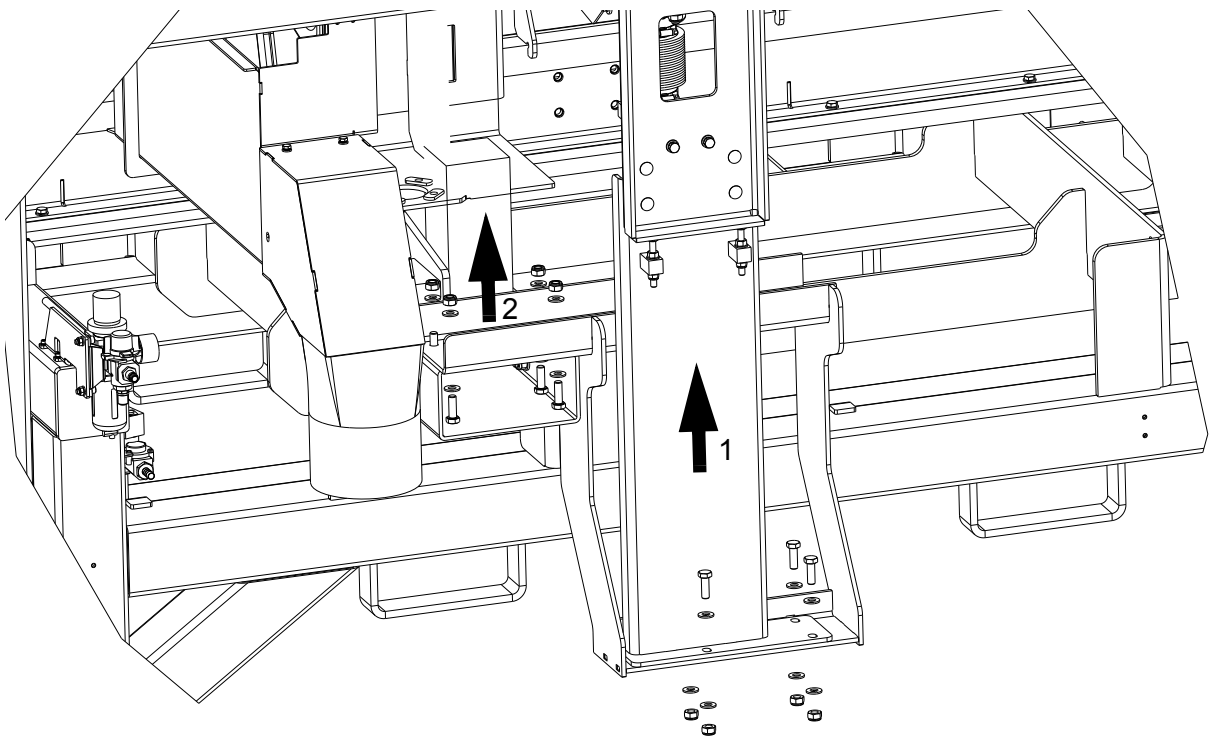

FIG. 2-2
See Figure 2-2. Dismount the electric up/down system assembly (optional equipment) from the transport bracket (1). Next dismount the transportation bracket from the resaw base (2). The up/down assembly is heavy (about 90kg). To lift it, use a belt and a winch or a forklift.